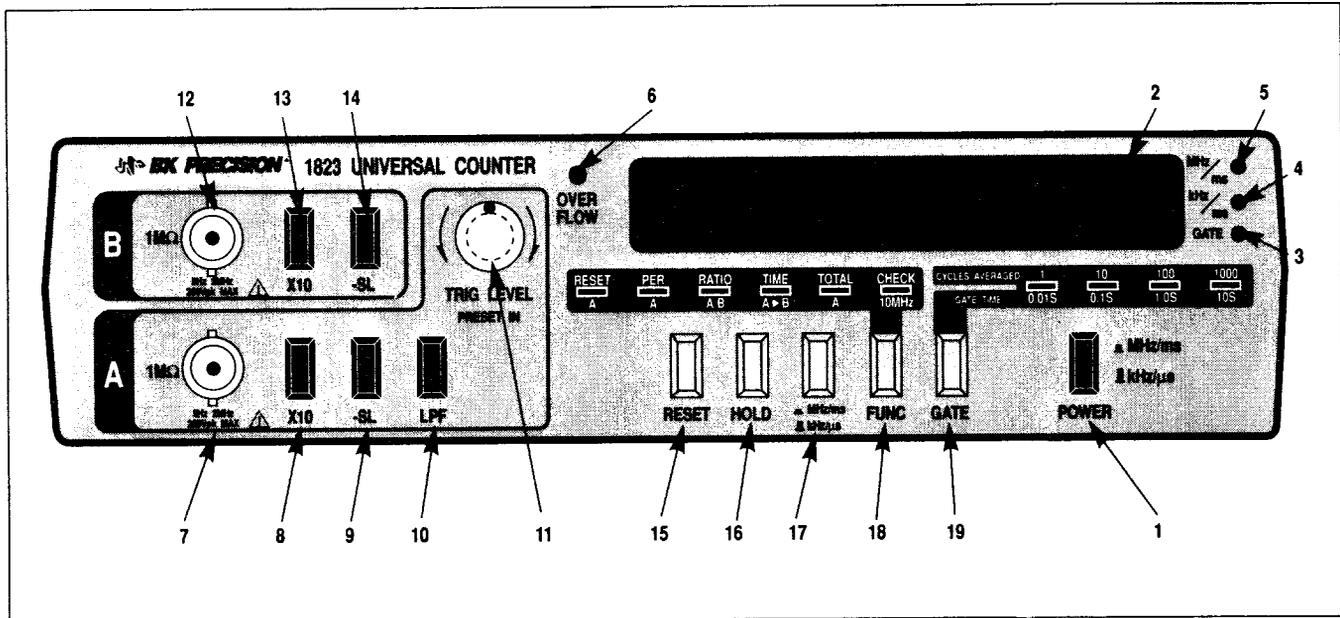

Figure 1a. Front Panel Controls And Indicators.
**FRONT PANEL.** Refer to Fig. 1a.